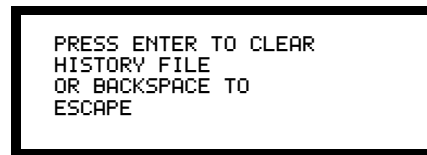

Figure 91 Clear History Screen
1. From the Status Change screen (Figure 84 on page 93), press the **4** key to display the Clear History as shown in Figure 91.